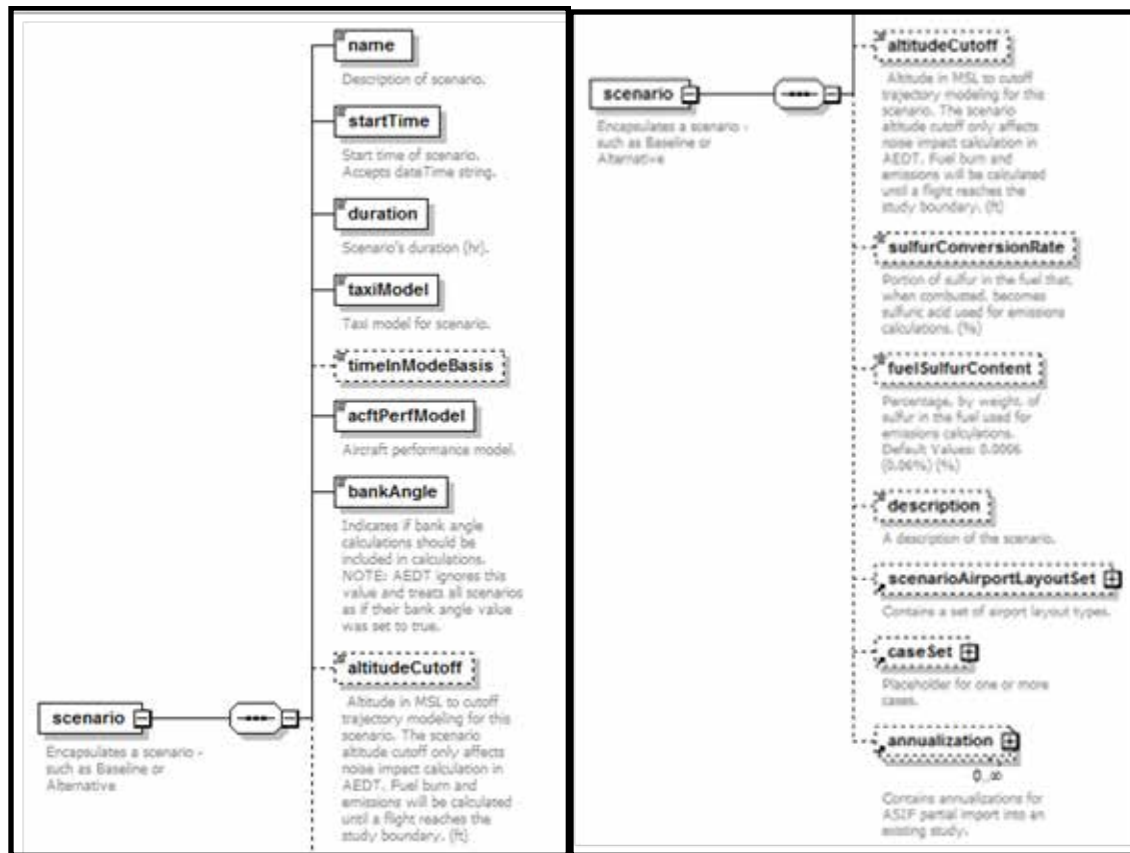

Figure 68. ASIF element – scenario
12. **AsifXml/study/scenario** (Figure 68):